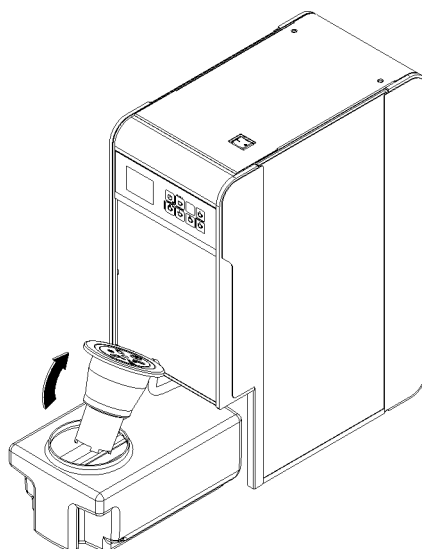

**figure 1**
**2** Remove the drip tray (see figure 1).